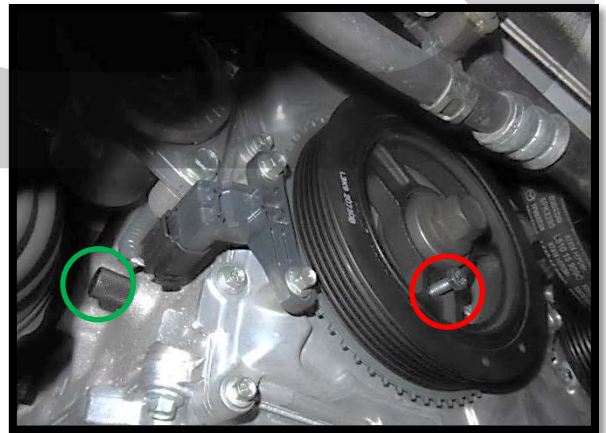

Figure 6d
d) **Remove the crankshaft pulley locking bolt** (**red circle** in **Figure 6d**).
e) **Remove the TDC Locator pin** installed in step 3e (**green circle** in **Figure 6d**).